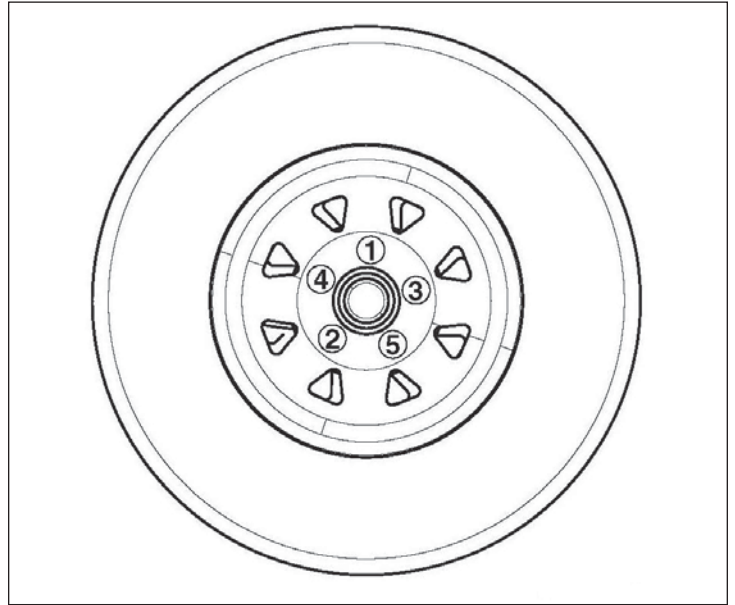

Figure 39
6. When torquing lug nuts, always use a criss-cross pattern (Figure 39).